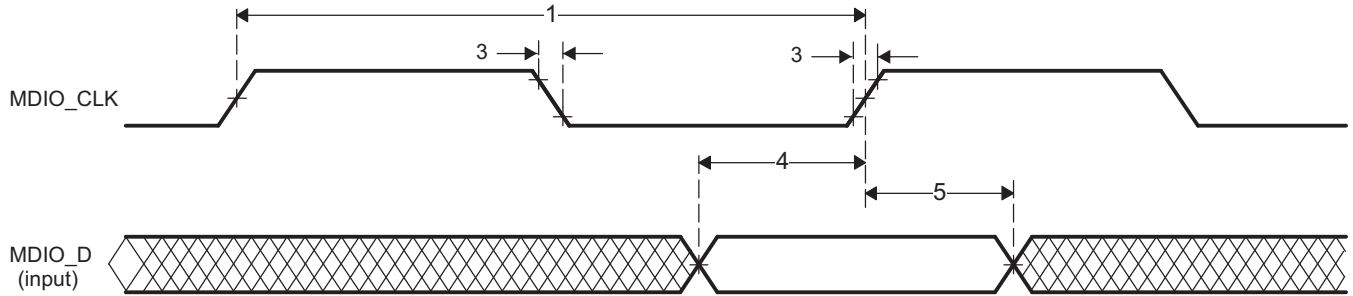
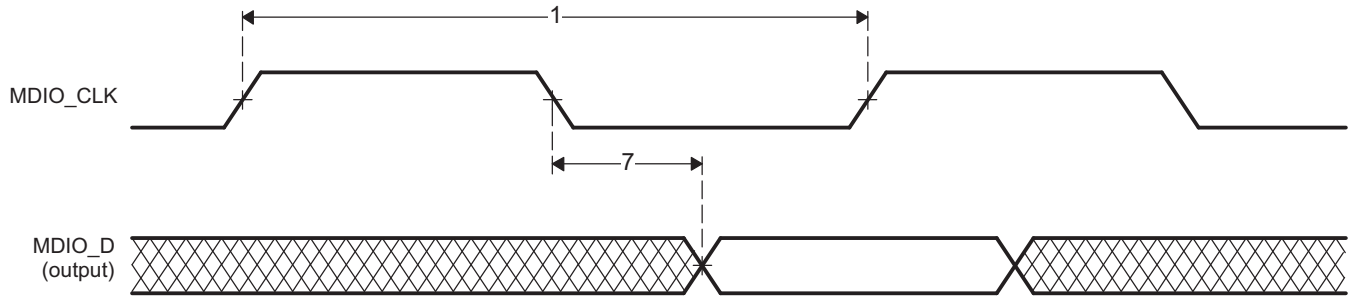

Figure 6-26. MDIO Input Timing
Figure 6-27. MDIO Output Timing
**Table 6-38. Timing Requirements for MDIO Input (see Figure 6-26 and Figure 6-27)**
Table 6-39. Switching Characteristics Over Recommended Operating Conditions for MDIO Output (see Figure 6-27)